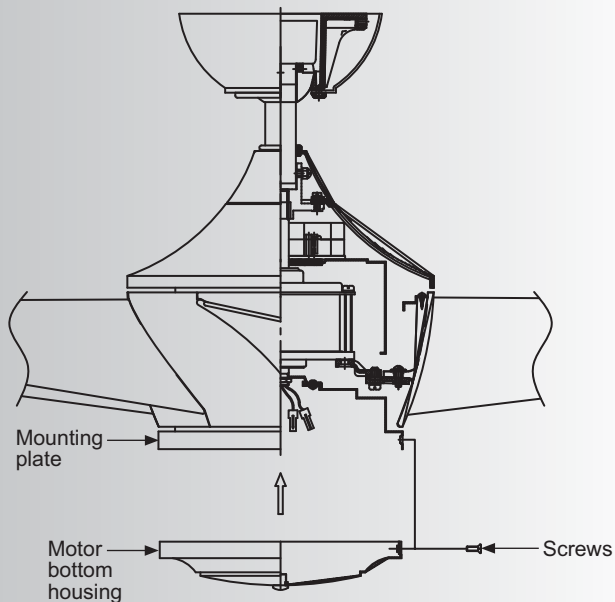

Fig. 17
Step 1. Loosen the three mounting screws on the inside of the motor bottom housing. (Fig. 17)
Step 2. Place the key holes on the motor bottom housing over the 2 screws previously loosened from the mounting plate, turn the motor bottom housing until it locks in place at the narrow section of the key holes. Secure by tightening all three screws. (Fig.17)